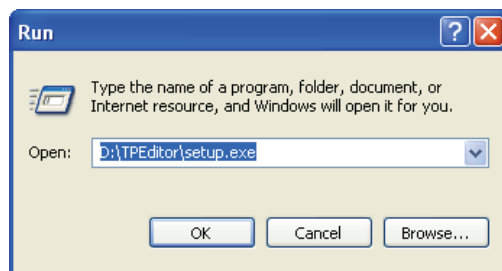
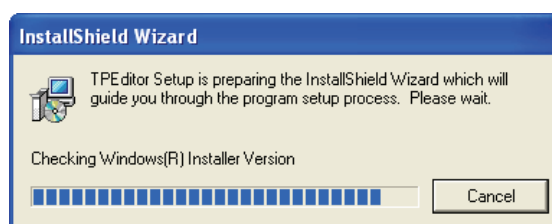

Figure 1-2
Figure 1-3
- Execute setup.exe saved in the specified directory (Figure 1-2). After pressing **OK** button, the system will setup automatically (Figure 1-3).